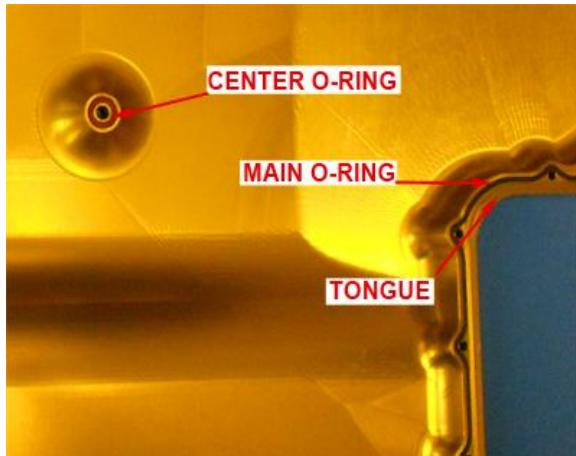

Figure 6.2.1.
2. **Figure 6.2.1** shows the important areas of the pylon cover that must be aligned during installation of the pylon cover.